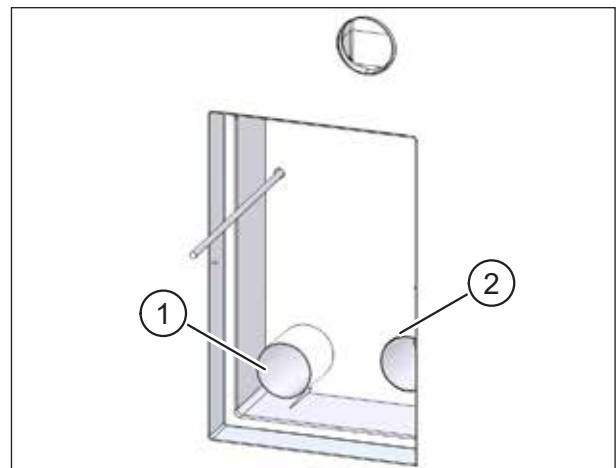

Fig. 70: Cutting ventilation pipes to length
- ▶ Push the two ventilation pipes (item 1 in Fig. 70) into the openings in the installation kit until they end flush with the inside of the installation kit (item 2 in Fig. 70).